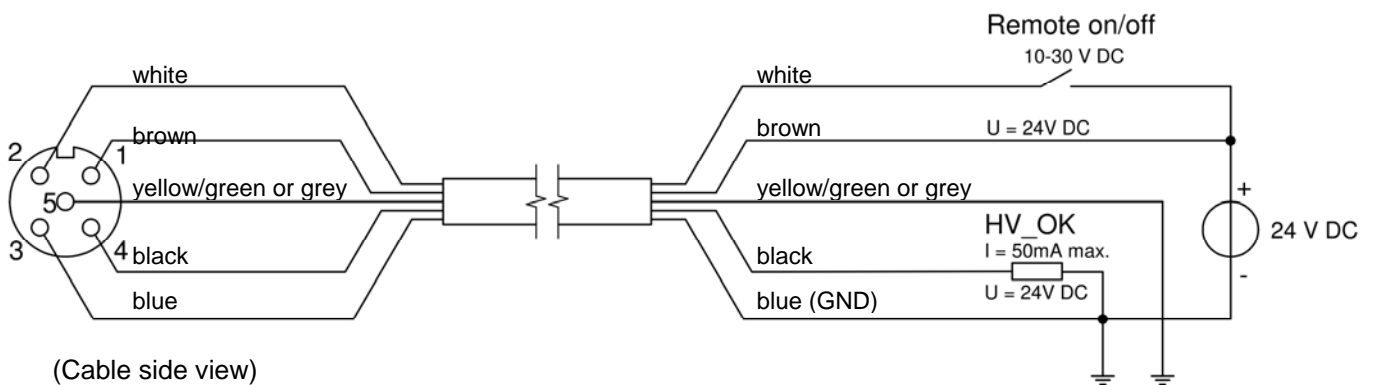

Figure 5: Wiring of the Performax Easy and Performax Easy Speed
- Attach the wiring as shown in Figure 5.